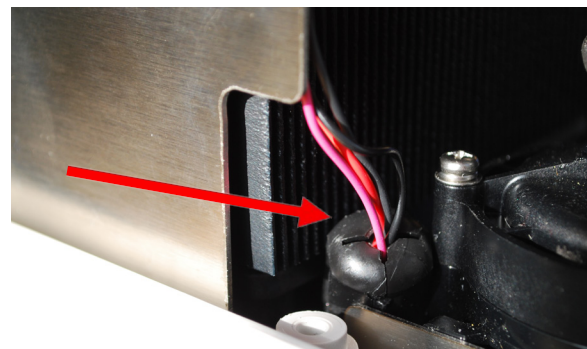

Figure 63 - Step 5 Remove EMI suppressor
5. Remove the Electro-magnetic interfferrance (EMI) suppressor that is around the fan and pump wires (Figure 63).